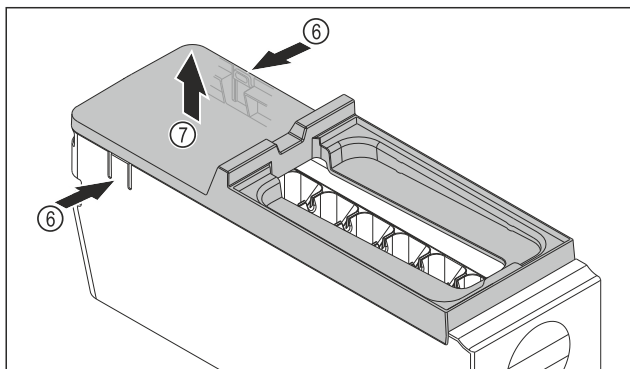

Fig. 113
- Removing the EasyTwist-Ice body cover: Push the tabs Fig. 113 (6) on both sides of the EasyTwist-Ice body with one hand.
- Use the other hand to remove the cover Fig. 113 (7) upwards.